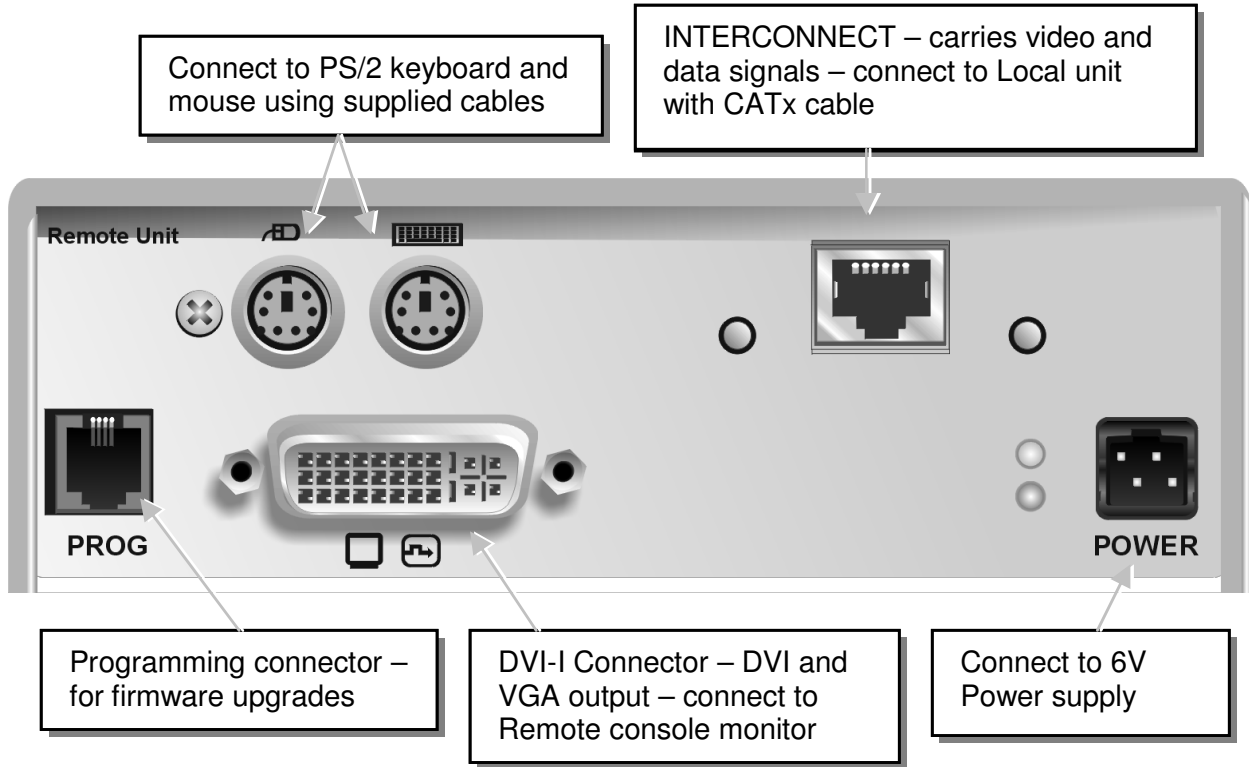
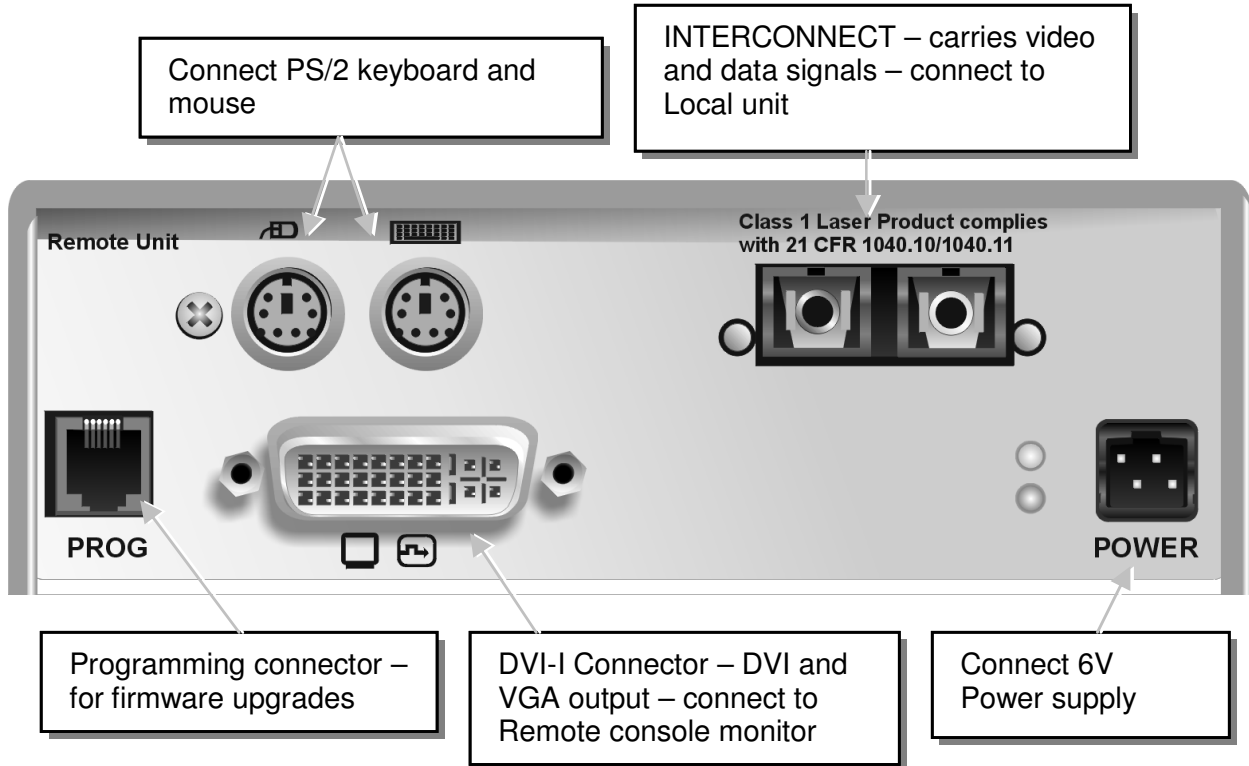
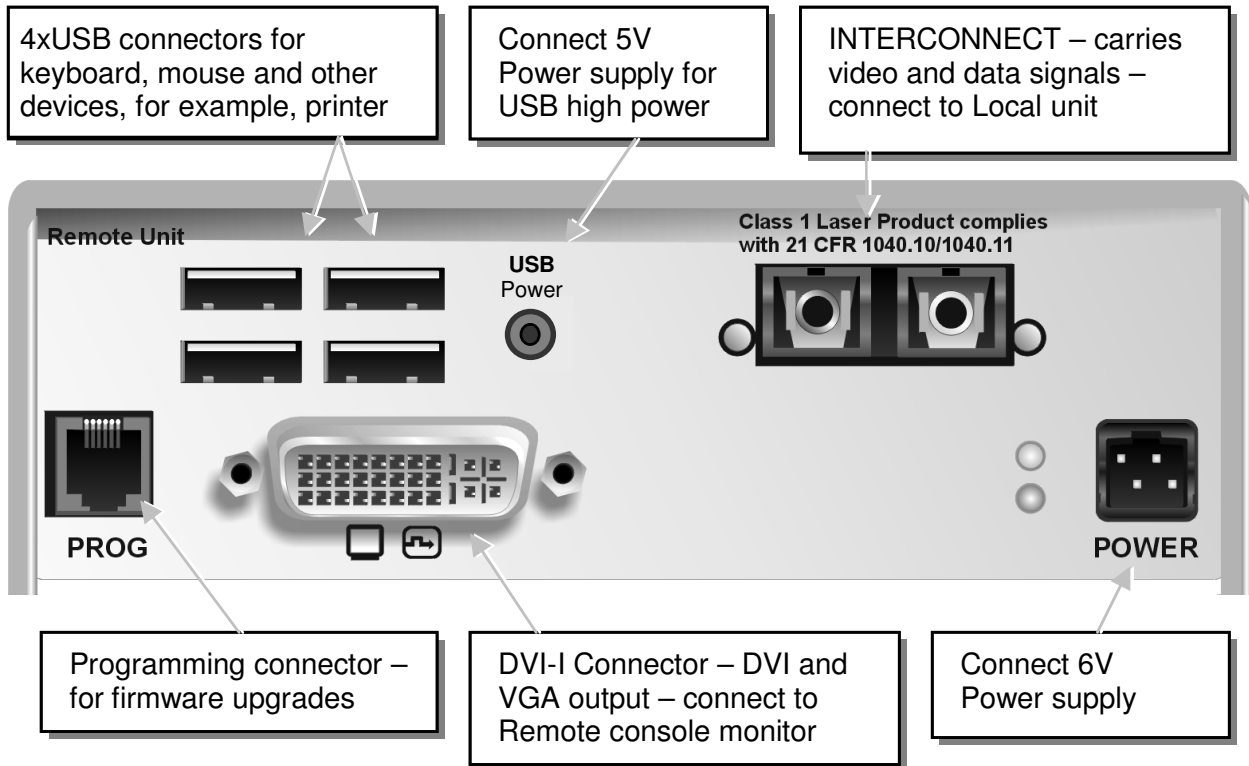

Figure 2 K439-1W Remote Unit
Figure 4 K437-1W/K438-1W Remote Unit
Figure 6 K442-2U/K443-2U Remote Unit
2. Connect your keyboard, monitor(s) and mouse to the Remote unit as shown in Figure 2 (K439-1W), Figure 4 (K437-1W/K438-1W) or Figure 6 (K442-2U/K443-2U).
3. Connect the interconnect cable to the INTERCONNECT socket(s) as shown in Figure 2 (K439-1W), Figure 4 (K437-1W/K438-1W) or Figure 6 (K442-2U/K443-2U).